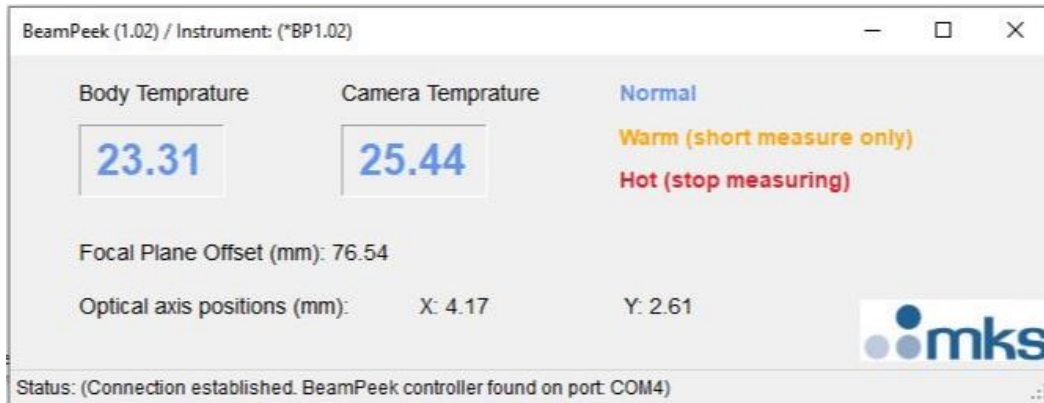

Figure 6: BeamPeek tools: temperature sensors reading, focal plane and Optical axis position
The *BeamPeeKTools* software (Figure.6) can be used to monitor temperature of the BeamPeeK body as well as the camera. The respective temperature readouts turn orange and subsequently red as the temperature increases close or over permissible limits. The body temperature sensor is placed closed to the optical aperture and can indicate mispositioning of the laser beam. With normal use, the temperature increase rate is approximately 10°C per 30s session at high power (>500W). **If mispositioned, the temperature could reach the recommended maximum of 65°C in 10-15 seconds.**
- Body and camera temperature are monitored by two sensors and displayed on software (Figure 6: BeamPeek tools: temperature sensors reading, focal plane and Optical axis position)